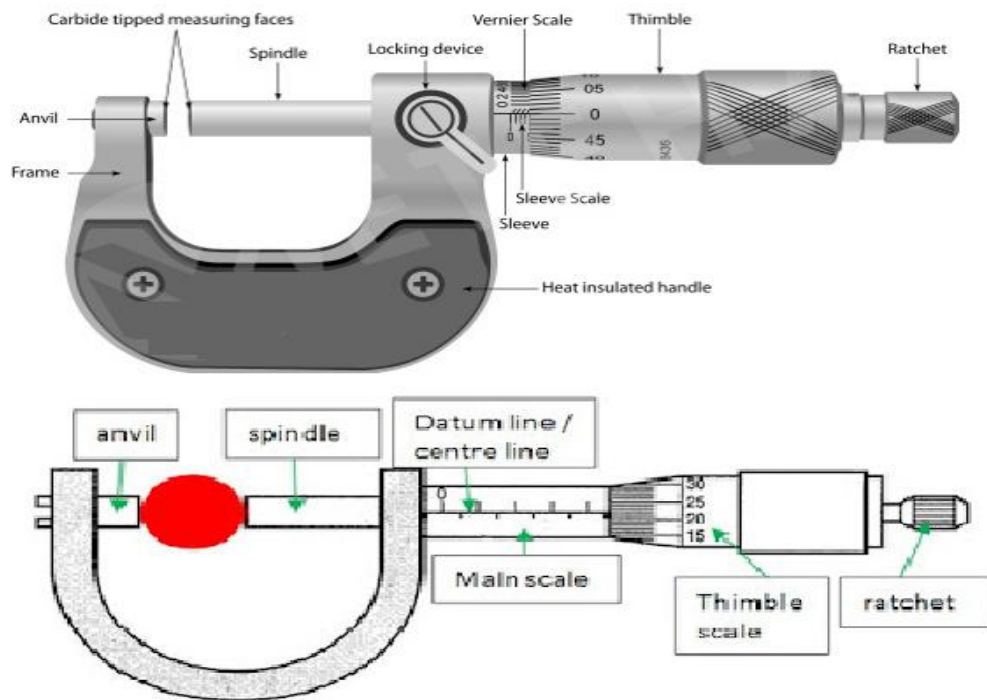

Figure 2
- (iii) when turning the ratchet, the thimble should be moved without stacking. Figure 2 is illustrative;